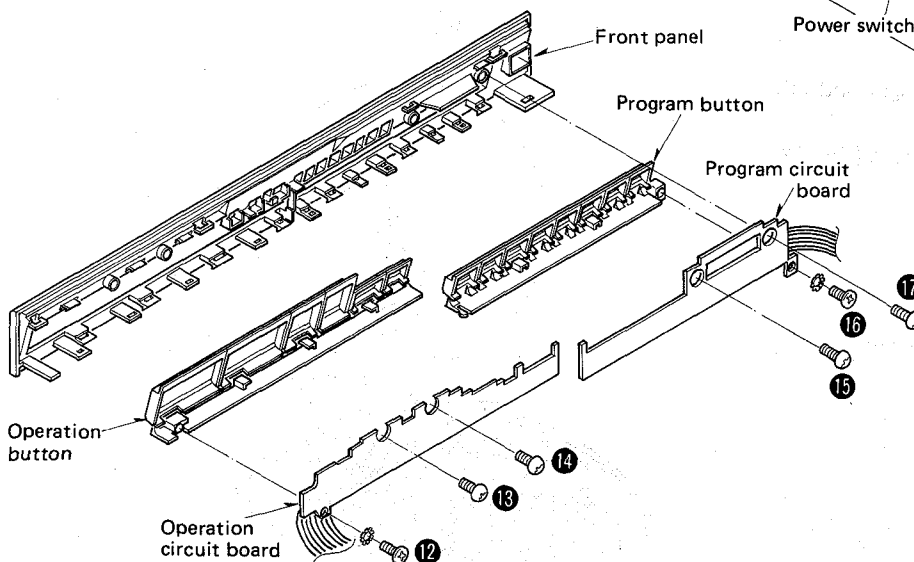

Fig. 7
3. Remove the 3 operation circuit board setscrews (Fig. 7 : ⑫ ~ ⑭).
6. Remove the 3 program circuit board setscrews (Fig. 7 : ⑮ ~ ⑰).